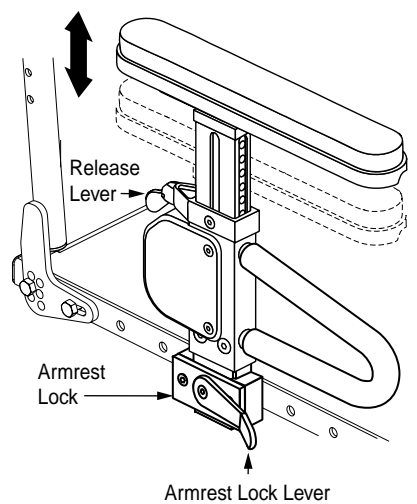

Figure 7. Pediatric Quick Height Adjustable Drop-in Armrest Height Adjustment
1. Twist the release lever inward or outward. See figure 7.